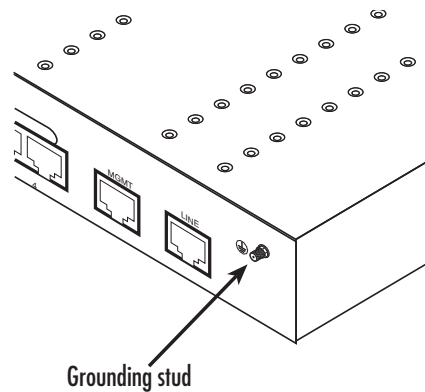

Figure 6. Grounding stud
2. Install the grounding wire between the grounding stud (see figure 6) and the grounding source.